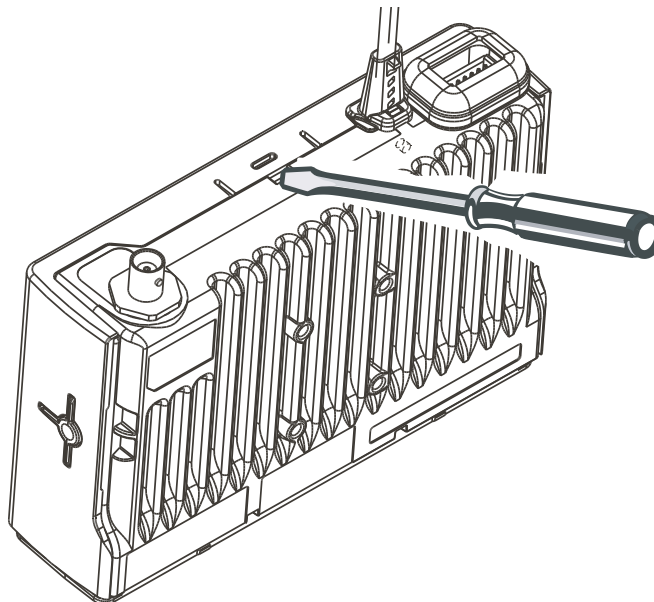

Figure 2-5 Top Cover Removal (Chassis Horizontal)
3. Next place the radio in a horizontal position as shown in Figure 2-5 and insert the flat screw driver into the slot to release the upper cover.